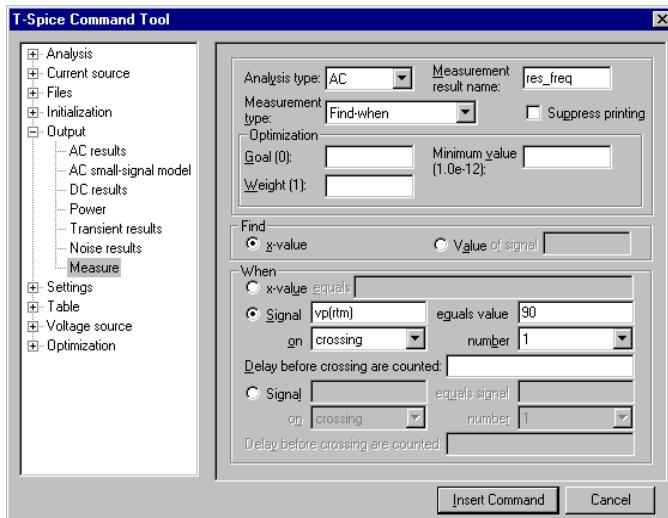

Figure 92: Customizing the quantities to measure
- In the left tree, double-click **Output** and then **Measure**. Set **Analysis type** to **AC** and **Measurement type** to **Find-when**. Enter **res_freq** into the **Measurement result name** field. Under **Find**, click the **x-value** radio button. Under **When**, click the **Signal** radio button, and enter **vp(rtm)**. Set **equals value** to **90**. From the drop-down menu next to **on** select **crossing**. For **number**, select **1** (Figure 92). Click **Insert Command**.